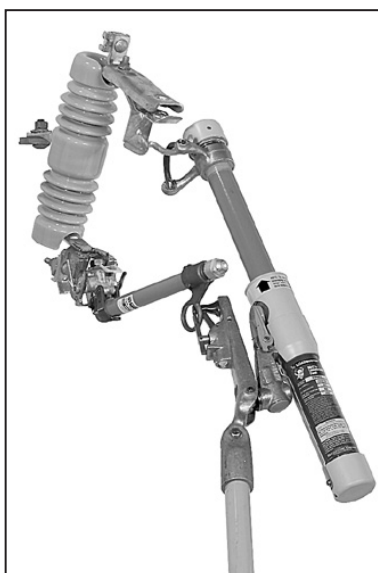

Figure 5. Loadbuster in tripped position.
**Step 3** To open the circuit, operate Loadbuster with a firm, steady pull until it is extended to its maximum length. See Figure 5. Avoid jerking and hesitation. The resetting latch will keep it open. Generally, there will be no indication of circuit interruption, but commutation arcing may be noted at the pull-ring hook and at the anchor, particularly when interrupting load currents approaching the rating of the tool. The only sound will be that of Loadbuster tripping.